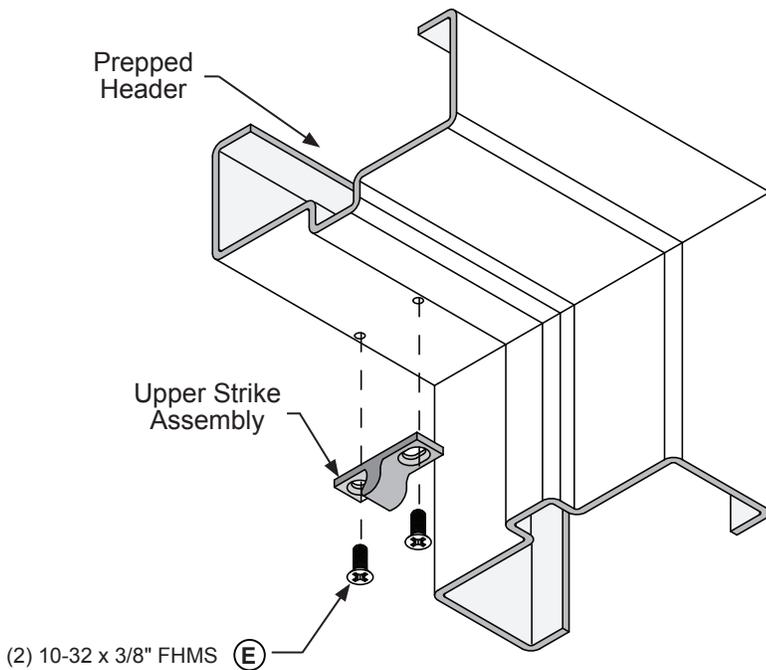

FIG. 17
1. Drill and tap for (2) 10-32 x 3/8" FHMS on the mark made in step 2 of the frame preparation on page 16. Attach the upper strike to header using (2) 10-32 x 3/8" FHMS. **(Fig. 17)**